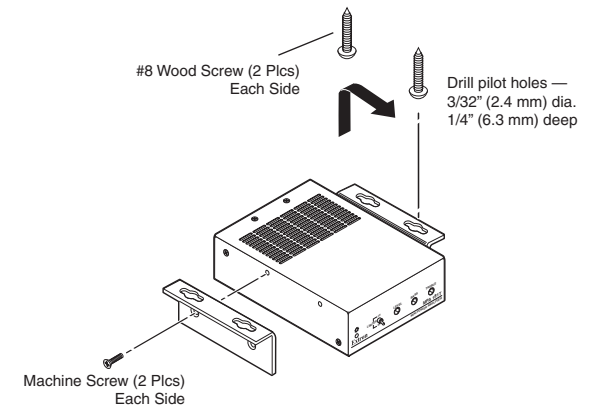

Figure 2-3 — Under-desk mounting
1. Attach the mounting brackets to the amplifier with the machine screws provided (figure 2-3).